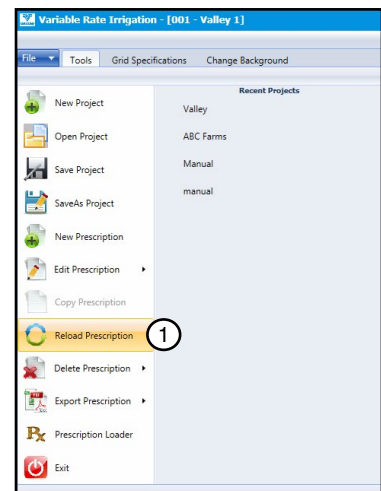

Figure 31-2 1. Reload
1. Select **Reload Prescription** in the VRI drop-down menu. See Figure 31-2.